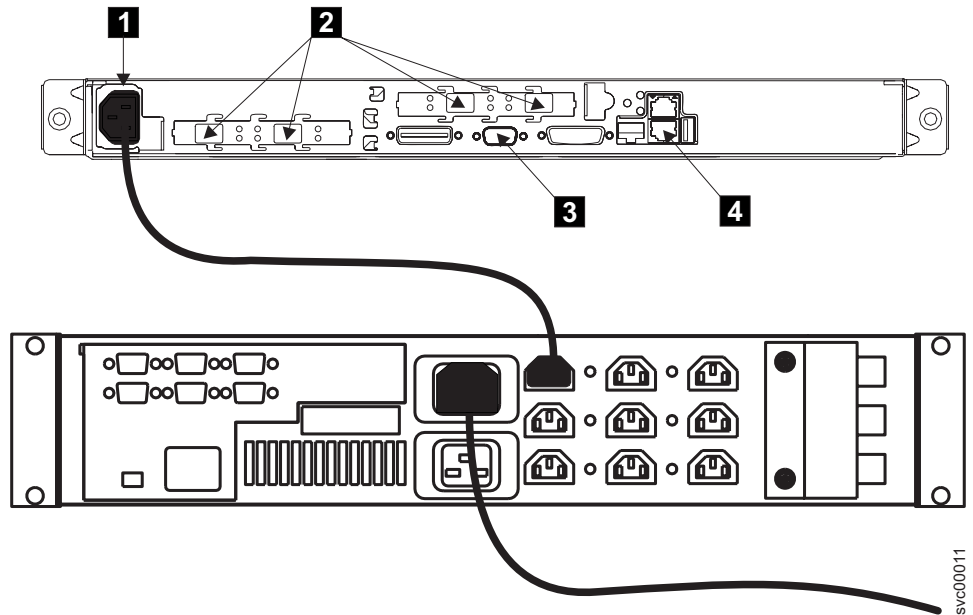

Figure 5. Power cable and signal sockets for the SAN Volume Controller 2145-4F2 and 2145 UPS
2. Ensure that the power cable is plugged into the 2145 UPS. Also, ensure that the other end of the power cable is connected from the 2145 UPS to the distribution point in the rack. Figure 5 on page xvii shows the connectors for the SAN Volume Controller 2145-4F2 and the 2145 UPS. The power cable connector is shown as **1** in the figure.